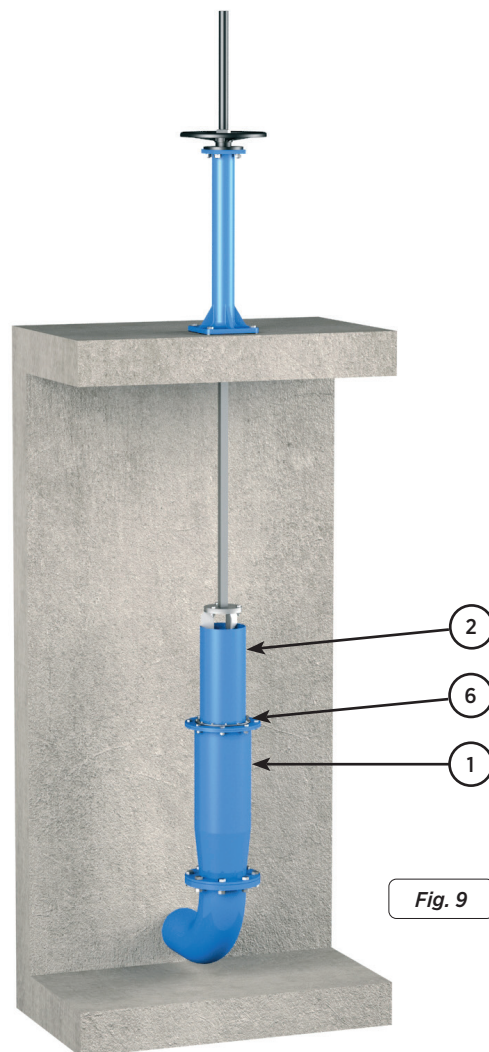

Fig. 9
1. The complete absence of fluid in the pond is recommended. The fluid must be at least 20 centimetres underneath the flange of the body (1) where the gasket is housed (6).
2. Position the valve completely open, with the obturator (2) at the very bottom (fig. 9).